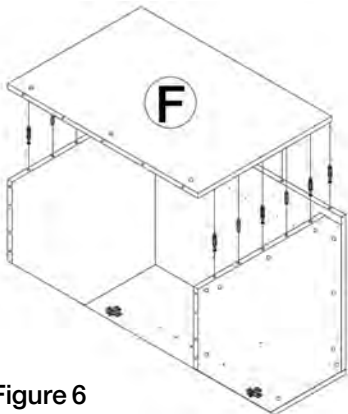
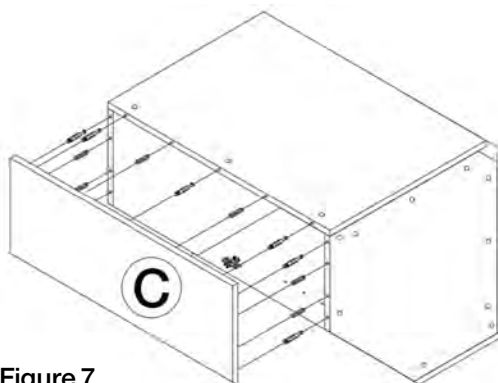

Figure 6
Figure 7
7. Install back side panel (F) onto the assembled panels (Figure 6) & install side panel (C) using the same methods above. (Figure 7)